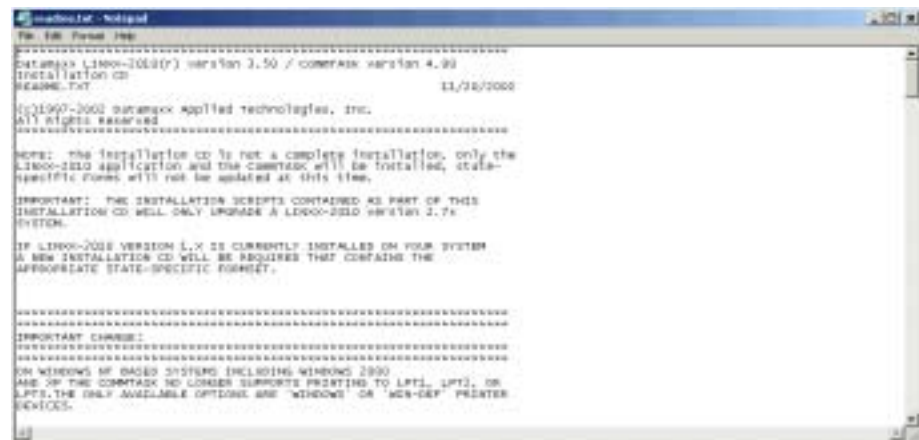

Figure 1-65 Readme Txt Dialog Box
11. Click the Installation Readme menu item in the *Datamaxx Documentation* list to load the ReadMe text provided by Datamaxx. The Readme.txt dialog box is displayed with specific comments related to the installation process (see Figure 1.65).